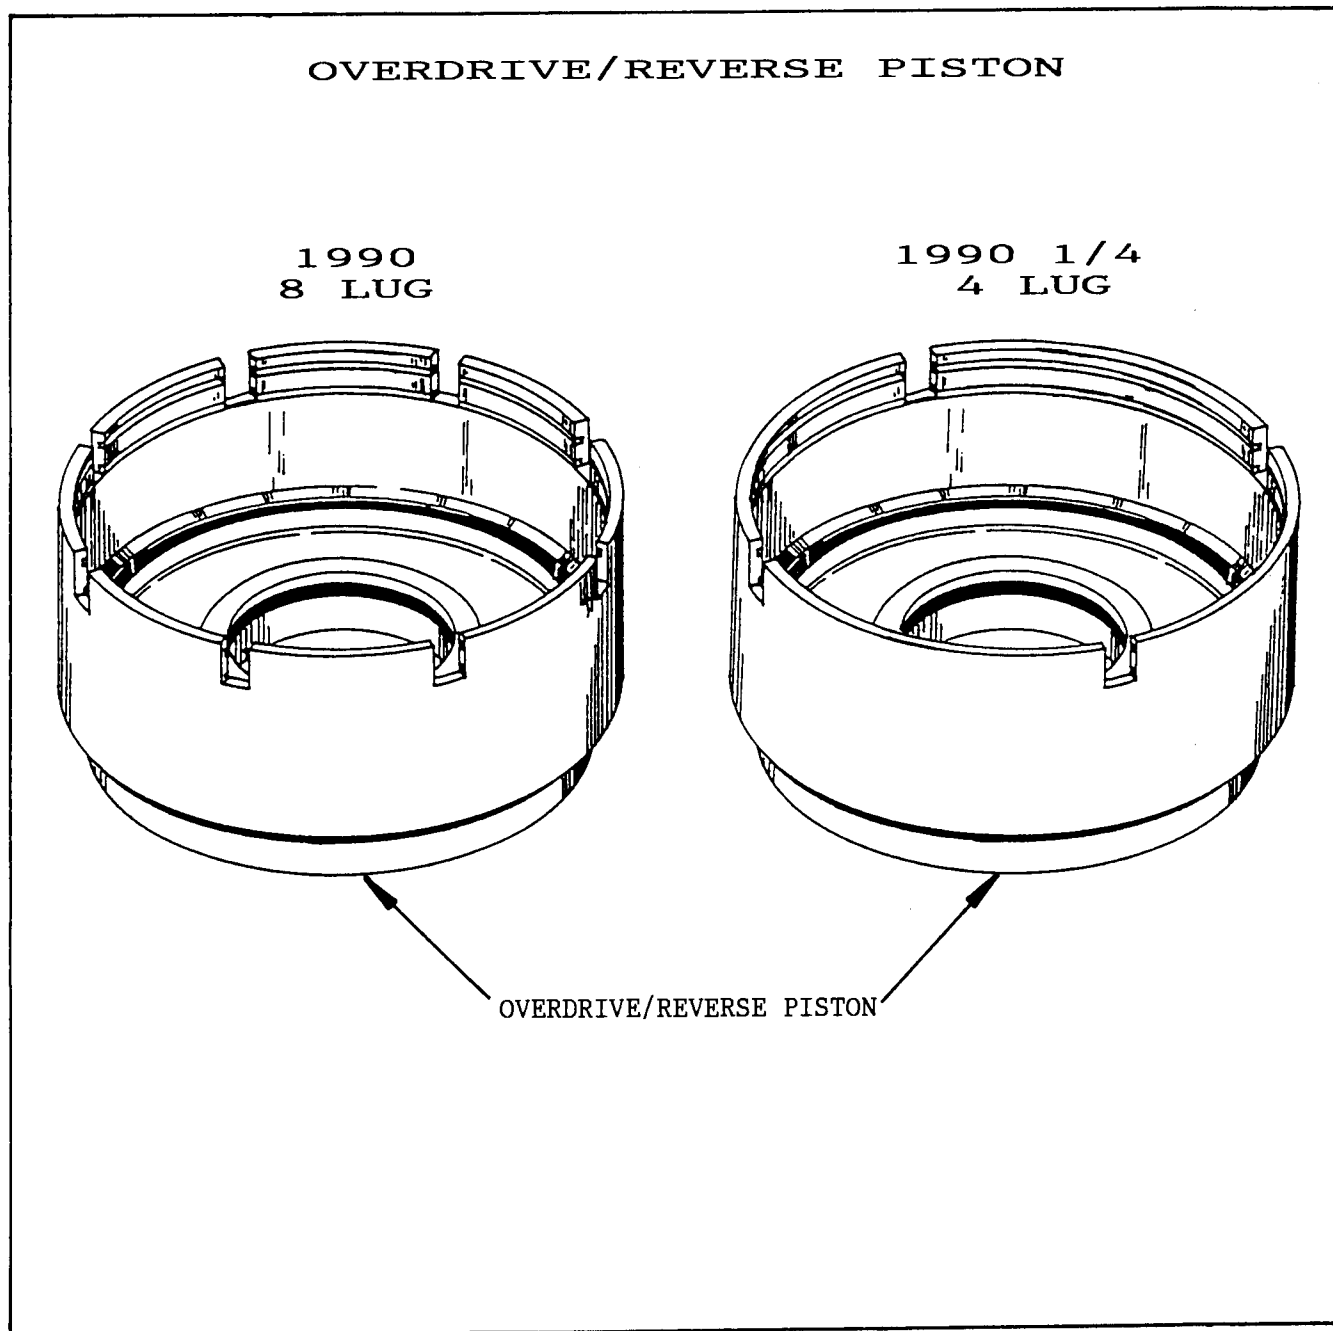

Figure 25
CHANGE: A new Overdrive/Reverse Piston has been introduced for 1990 1/4 model transaxles, and features four reaction plate slots instead of eight slots (See Figure 25).
- (1) OVERDRIVE/REVERSE PISTON - The new Overdrive/Reverse Piston has four slots, for the pressure plate lugs, instead of the previous eight slots and can be identified visually (See Figure 25).